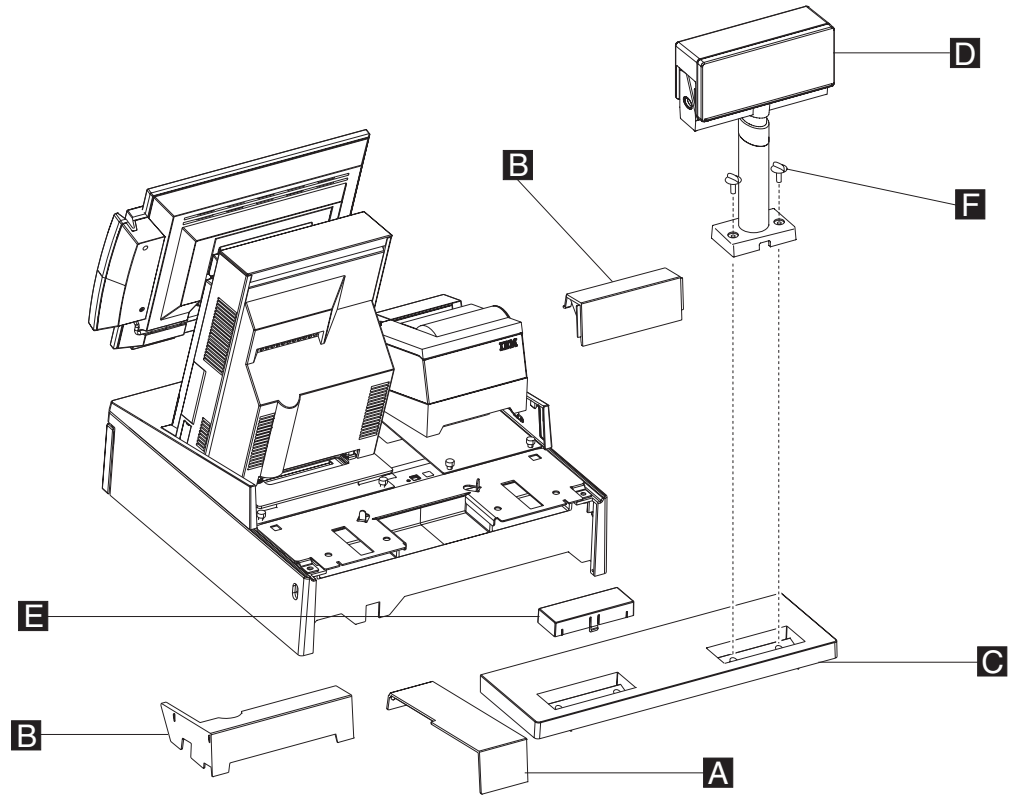

Figure 95. Attaching the distributed customer display to the system unit
- a. Remove the filler panels **A** and **B** and the rear modesty panel **C** from the integration tray, as shown in Figure 95.
- g. Reinstall filler panels **B** first then install **A** in Figure 95.